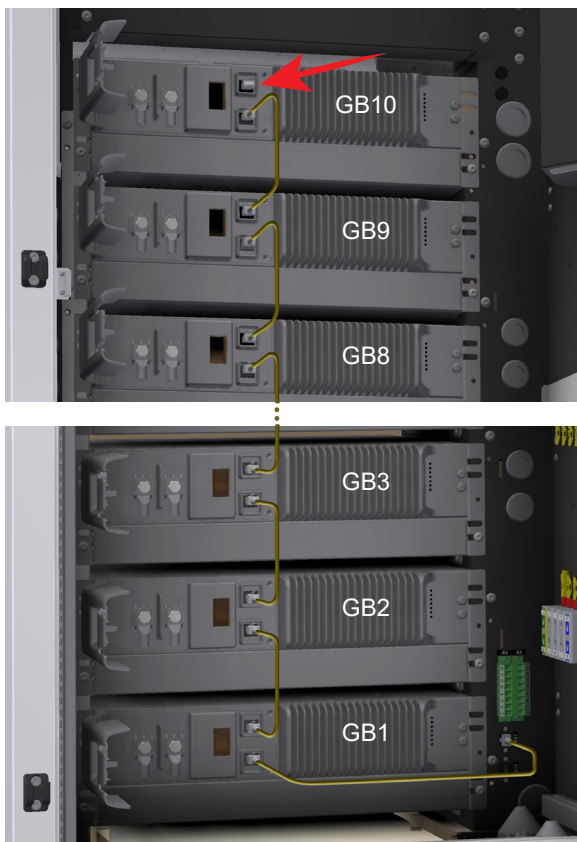

Figure 4.36 Battery communication cables
1. Connect each battery module to those adjacent to it using an intra-rack RJ45 communication cable. For connection use Modbus ports on batteries (see *Figure 4.36*).
2. Interconnect connector -X21 with the bottom battery Modbus port using attached RJ45 communication cable (see *Figure 4.36*).
Insert termination plug to the last unused Modbus port. See details in *Figure 4.36*